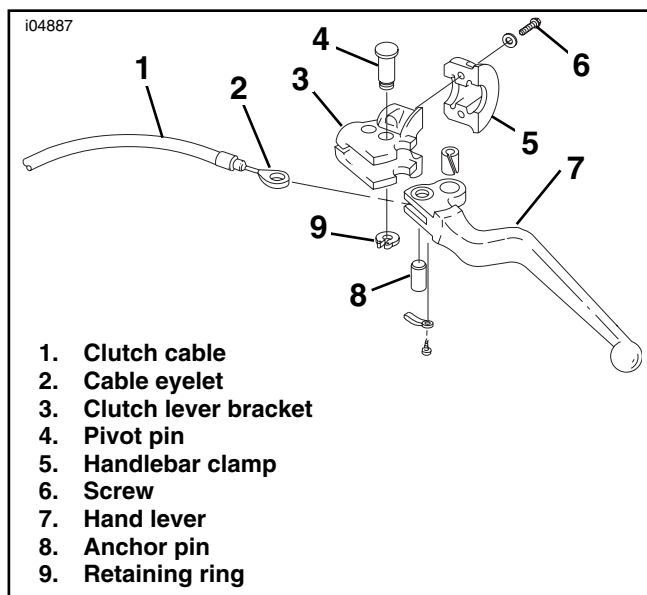

Figure 2. Original Clutch Hand Lever Assembly
11. See Figure 2. Remove the retaining ring (9) from the clutch hand-lever pivot pin (4). Remove the pivot pin and clutch hand-lever (7) from the clutch-lever bracket (3).
12. Remove the anchor pin (8) and the clutch-cable eyelet (2) from the clutch hand-lever. Remove any clamps retaining the clutch cable to the bike, and remove the cable. **Save the pivot pin (4)**, but discard all other components and hardware removed in this step.
13. Using a T27 TORX® drive head, remove the two screws (6) with flat washers securing the handlebar clamp (5) to the clutch lever bracket.